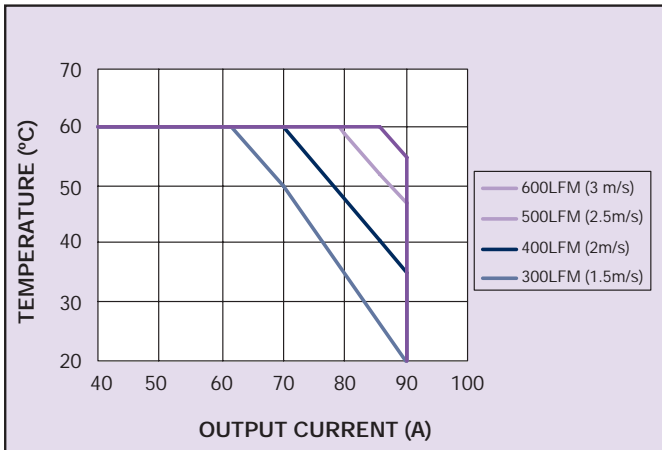

Figure 1: Typical Thermal Derating At Sea Level (12 Vin, 1.5 Vout)
- 5 Maximum current requires adequate forced air over the converter. Please consult Figure 1 for thermal derating.